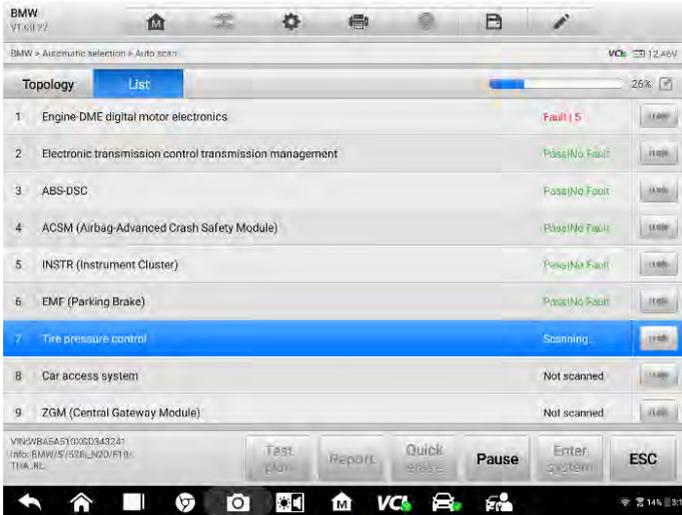

Figure 5-2 DTC Scan
1. Tap **Fault scan** at the bottom of the **List** tab page to scan all the systems, as shown in Figure 5-2.